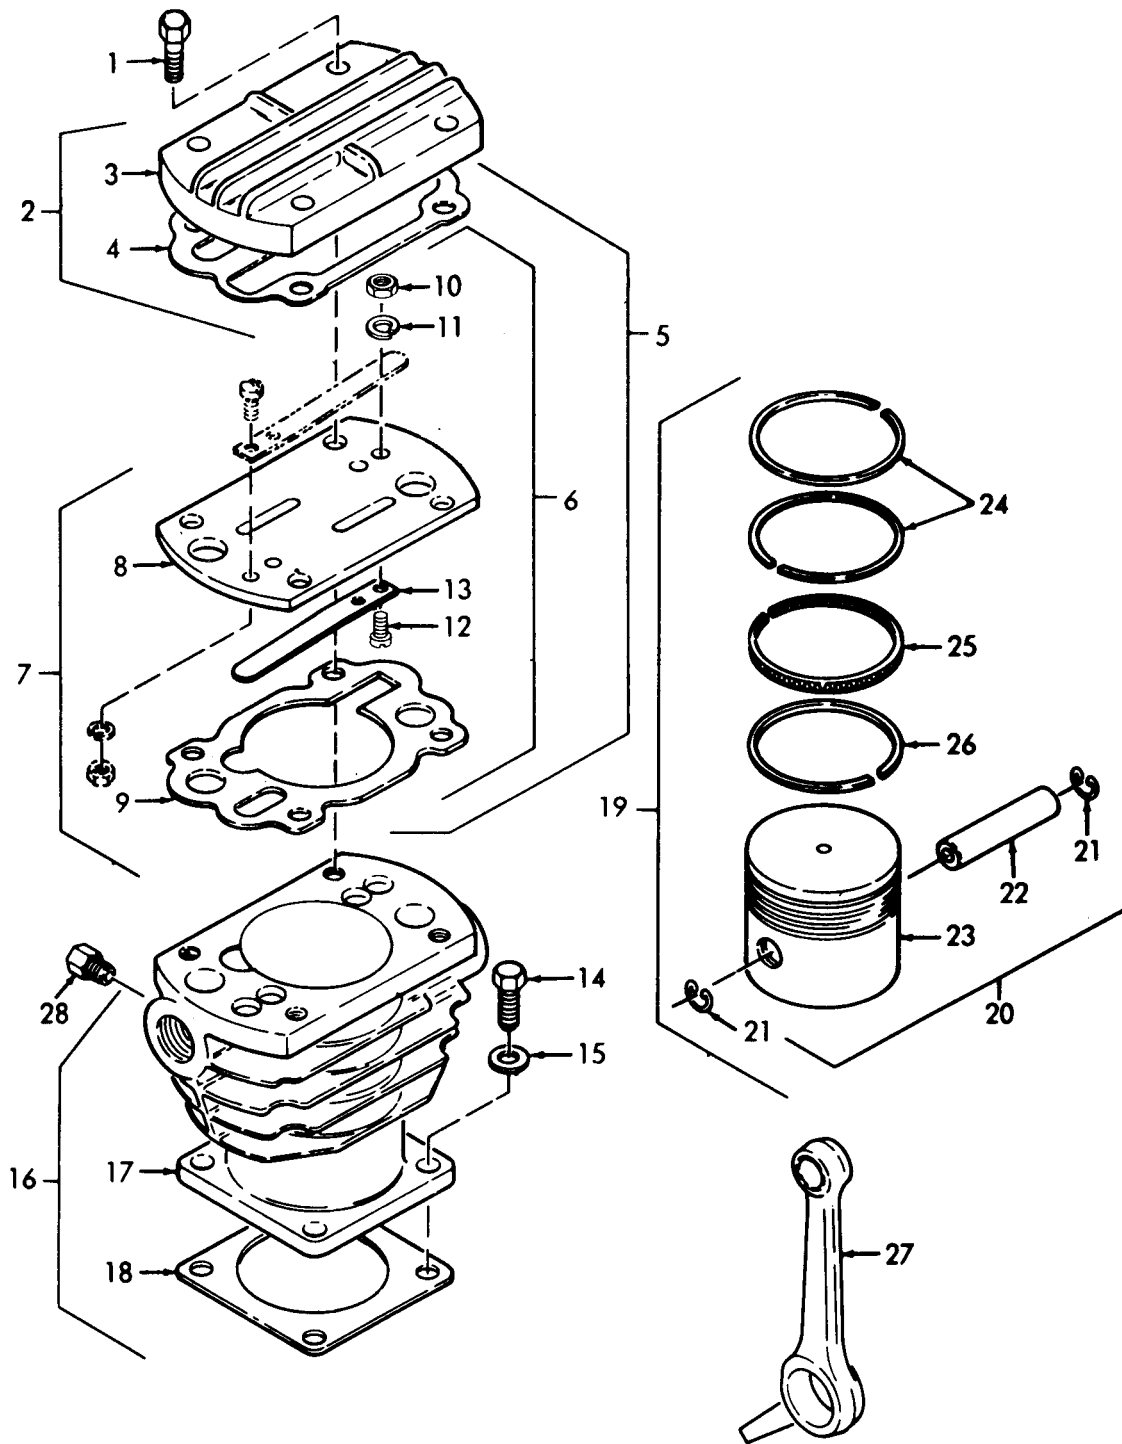

Figure 14-8. Low Pressure Cylinder Piston, Rod, and Rings, Exploded View.
- (3) Refer to figure 14-8 and remove the low-pressure cylinder, piston, rod, and rings in numerical sequence.
## LEGEND FOR FIGURE 14-8: